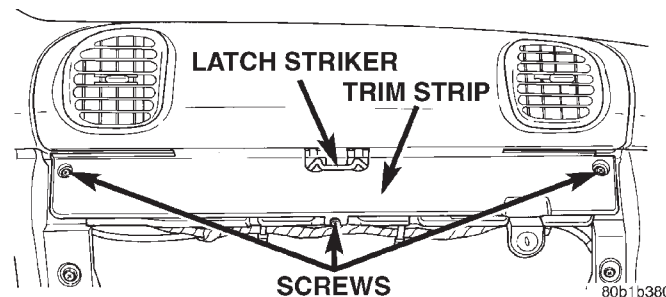

Fig. 22 Glove Box Opening Upper Trim Strip Remove/Install
- (1) Disconnect and isolate the battery negative cable.
- (2) Open the glove box.
- (3) Remove the three screws that secure the trim strip to the glove box opening upper reinforcement (Fig. 22).